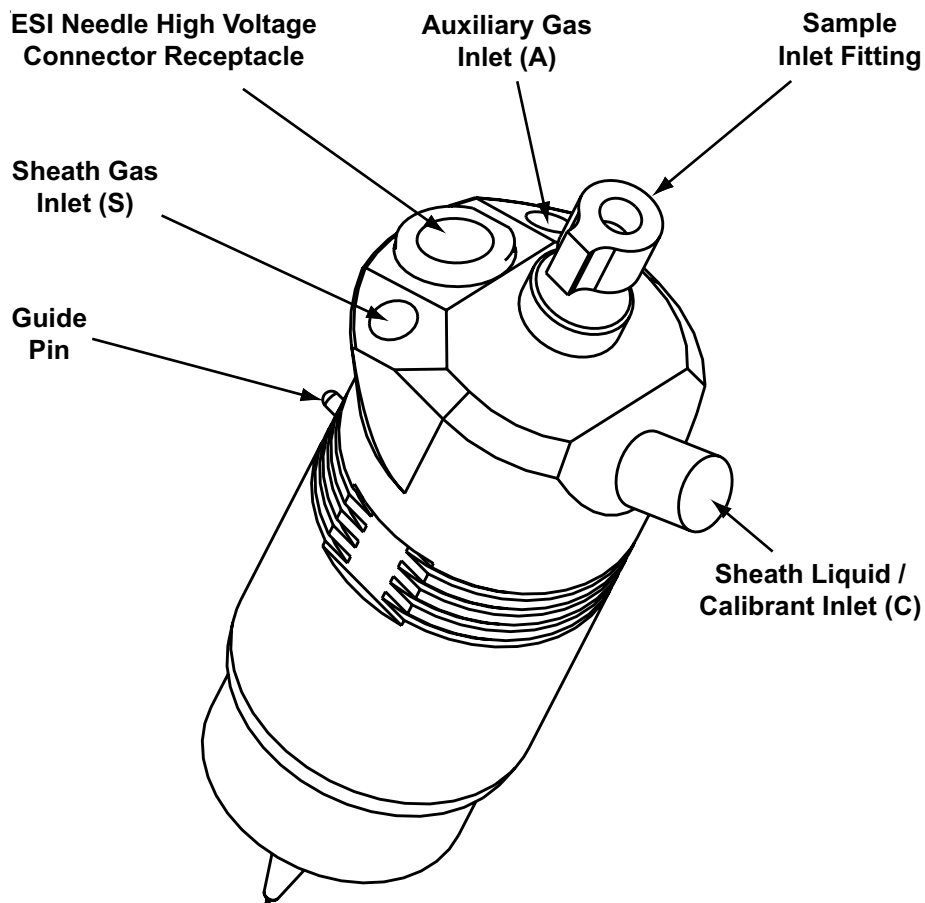

Figure 2-10. ESI probe, side view
3. Insert the ESI probe into the port in the ion source housing, align the guide pin on the probe body at a minus 45 degree angle from the API interlock block. See Figure 2-10